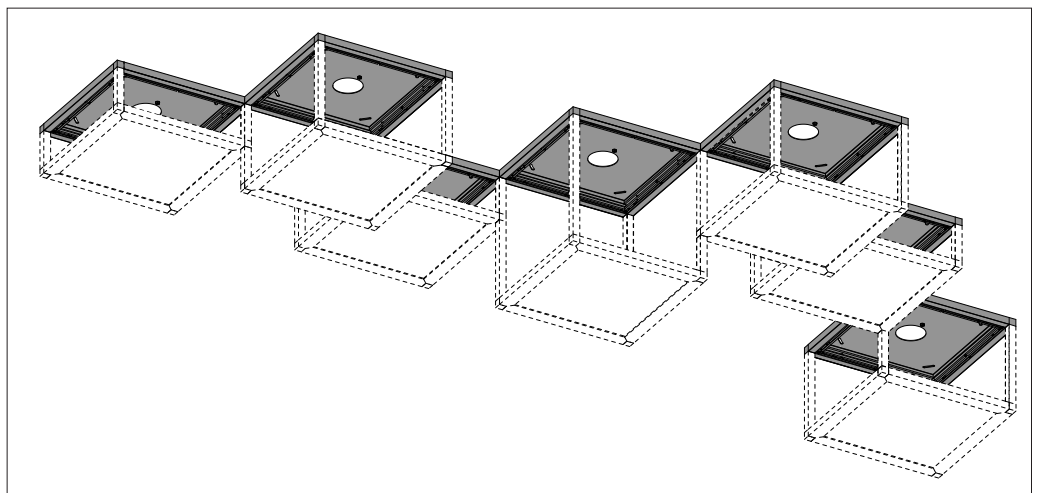

Fig. 2b
- 7d. Section as part of whole assembly shown in Fig. 2b.